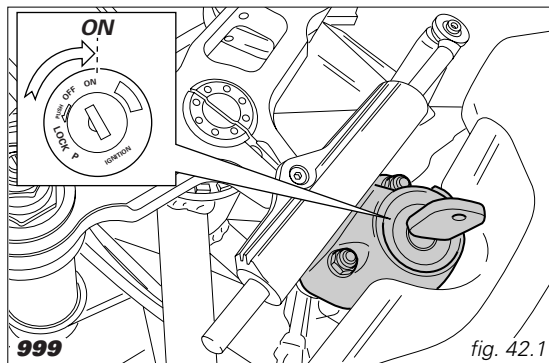
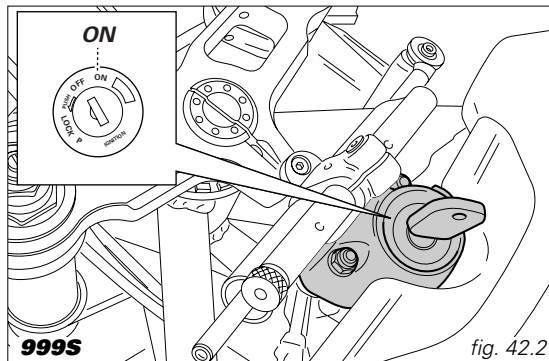

fig. 42.1
fig. 42.2
1) Move the ignition key to **ON** (fig. 42.1 and fig. 42.2).